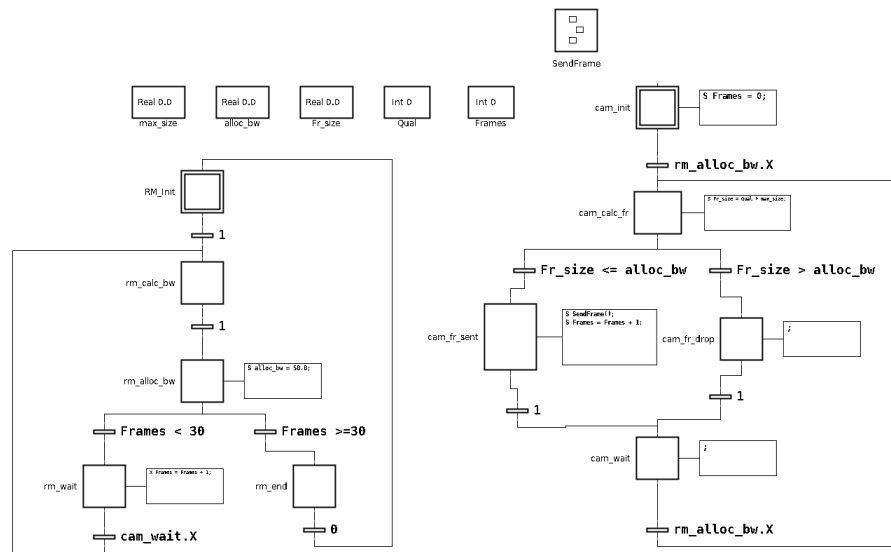

Figure 1 Solution to the Grafset problem.
8. One solution is shown in Figure 1.